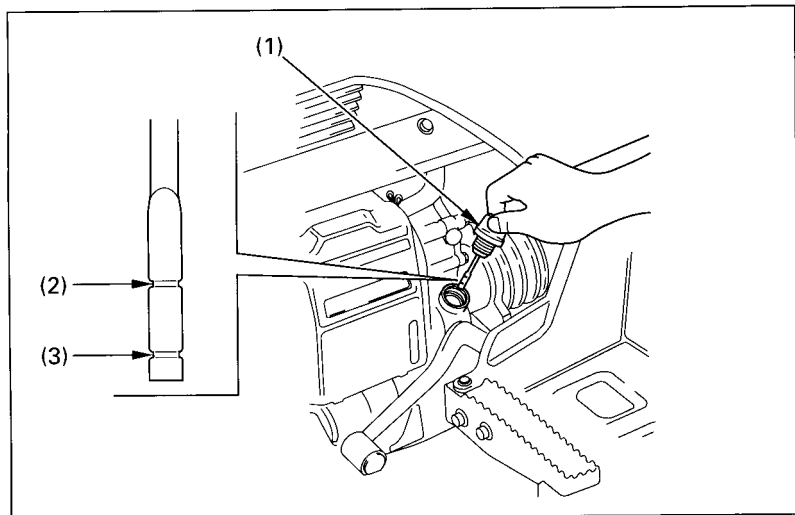

Fig. 2-22 (1) Oil filler cap/dipstick
The oil filler cap/dipstick (Fig. 2-22), on the right crankcase cover, is used to measure the oil level. The oil should be checked each day before operating the FOURTRAX and maintained between the upper level mark (2) and the lower level mark (3).